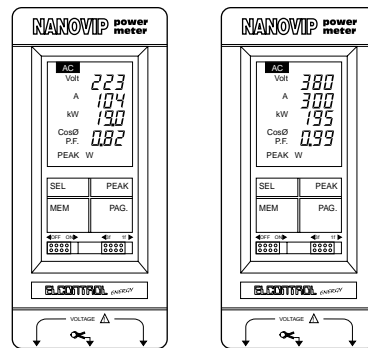

Fig. 5.2
- 3f/1f: This slide-switch enables the user to select the operation either in single phase systems or in balanced three-phase systems. Set the slide switch in the "3f" position to perform measurements in balanced three-phase systems, or in the "1f" position for measurements in single-phase systems (see Fig. 5.2).